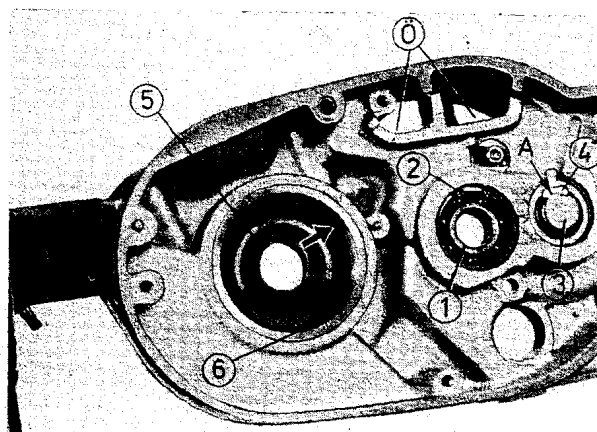

Fig. 59. Left-hand housing half - oil guide plate and gearbox bearing
- Insert the oil guide plate (3 in Fig. 59) into the gearbox compartment and fit the locking plate at the clutch side, tighten the fastening nut M 6 and lock it;
- Press the closing plates (6) into the respective holes of the right-hand casing half from the dynamo side in such a manner that tightness is ensured.
- Starting from the clutch side, insert the gearbox bearing 6204 J C 4 (1) for drive shaft up to the casing collar and mount the circlip (2) on the clutch side;
- Starting from the gearbox compartment, mount cap (3) and seal plate (4) as well as gearbox bearing 6203 J C 4 for output shaft in this order.
- Put the oil guide plate (5) for bearing 6306 C 4 f on the circlip (6) from the crankcase interior. The dot pressed into the outer edge of the oil guide plate points to the opening of the circlip and serves as lock against displacement (see arrow in Fig. 59);
- Mount the crankshaft main bearing 6306 C 4 f (3) by means of the fitting mandrel (1) (29-50.405). At the same time, the oil guide plate is centred with the taper collar of the fitting mandrel (2);